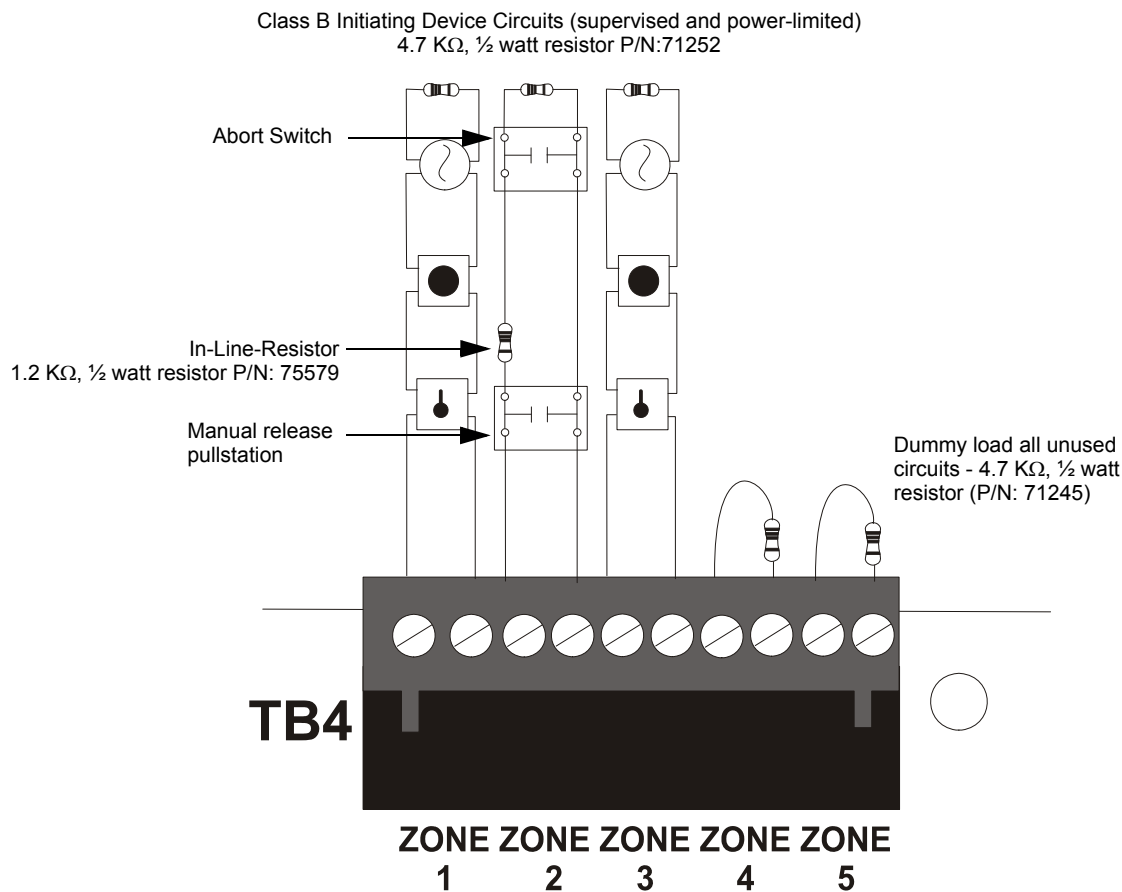

Figure 2.7 Style B Combination Circuit on Zone 2
- ✓ The manual release pull station must connect to the FACP Initiating Device Circuit before the In-Line Resistor as shown in Figure 2.7.
- ✓ The Abort Switch must connect to the FACP Initiating Device Circuit after the In-Line Resistor as shown in Figure 2.7.